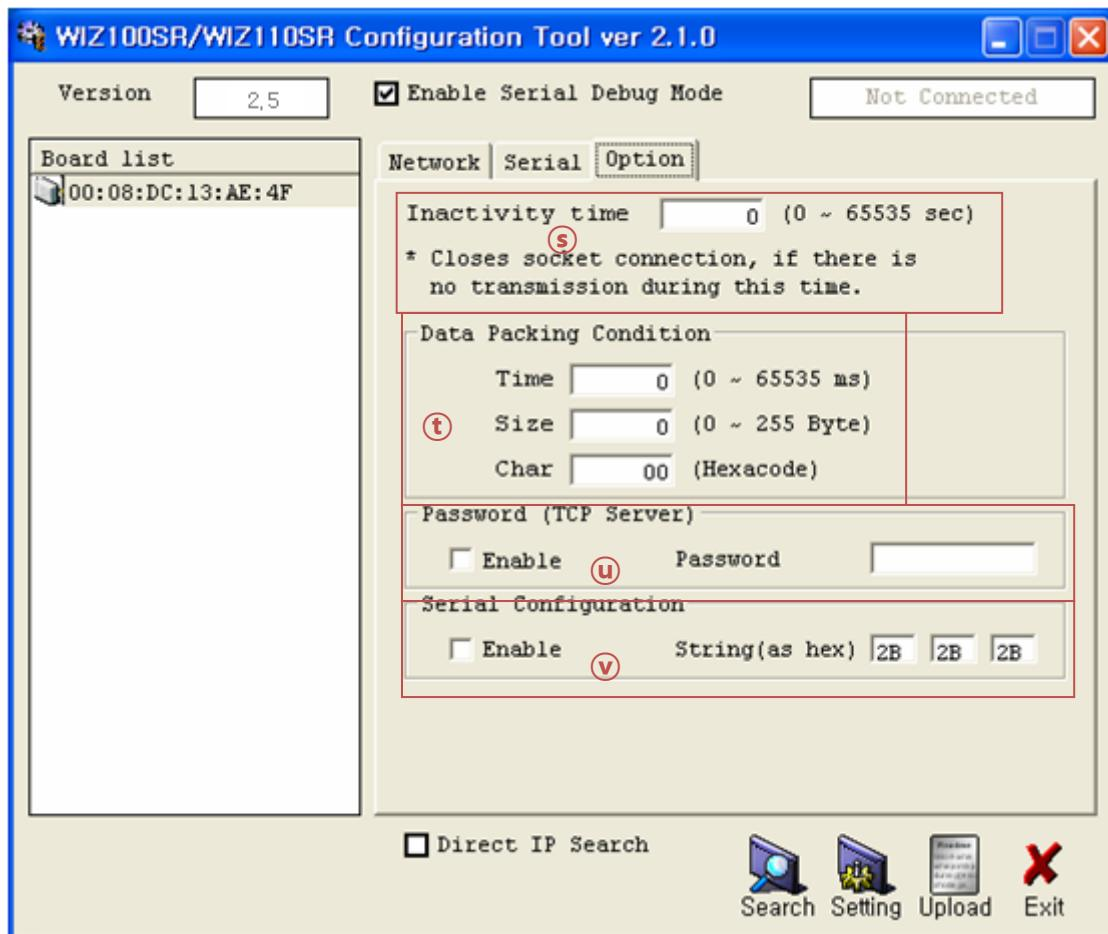

Figure 10. Configuration Tool (Option Config.)
3. As shown in Figure 10, select Option tab and check 'Enable' combo box of "Password" menu.
- ① Select a module shown in “Board list”, and click “Upload” button.
- ☞ Before uploading through Ethernet, you should set the network information of WIZ100SR first by Configuration Tool program as shown above Fig 10. By using Ping test, you can check if network is correctly configured.
- ② When the window as shown below Figure is displayed, select file for upload and click “Open” button.